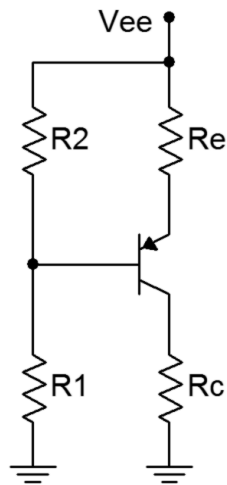

Figure 1
1. Consider the circuit of Figure 1 using $V_{ee} = 10$ volts, $R_1 = 10$ k Ω , $R_2 = 3.3$ k Ω , $R_e = 4.7$ k Ω and $R_c = 5.6$ k Ω . Using the approximation of a lightly loaded “stiff” voltage divider, determine the theoretical base, emitter and collector voltages, and record them in Table 1 (Theory).
2. Build the circuit of Figure 1 using $V_{ee} = 10$ volts, $R_1 = 10$ k Ω , $R_2 = 3.3$ k Ω , $R_e = 4.7$ k Ω and $R_c = 5.6$ k Ω . Measure the base, emitter and collector voltages and record them in the first row of Table 1 (Experimental).